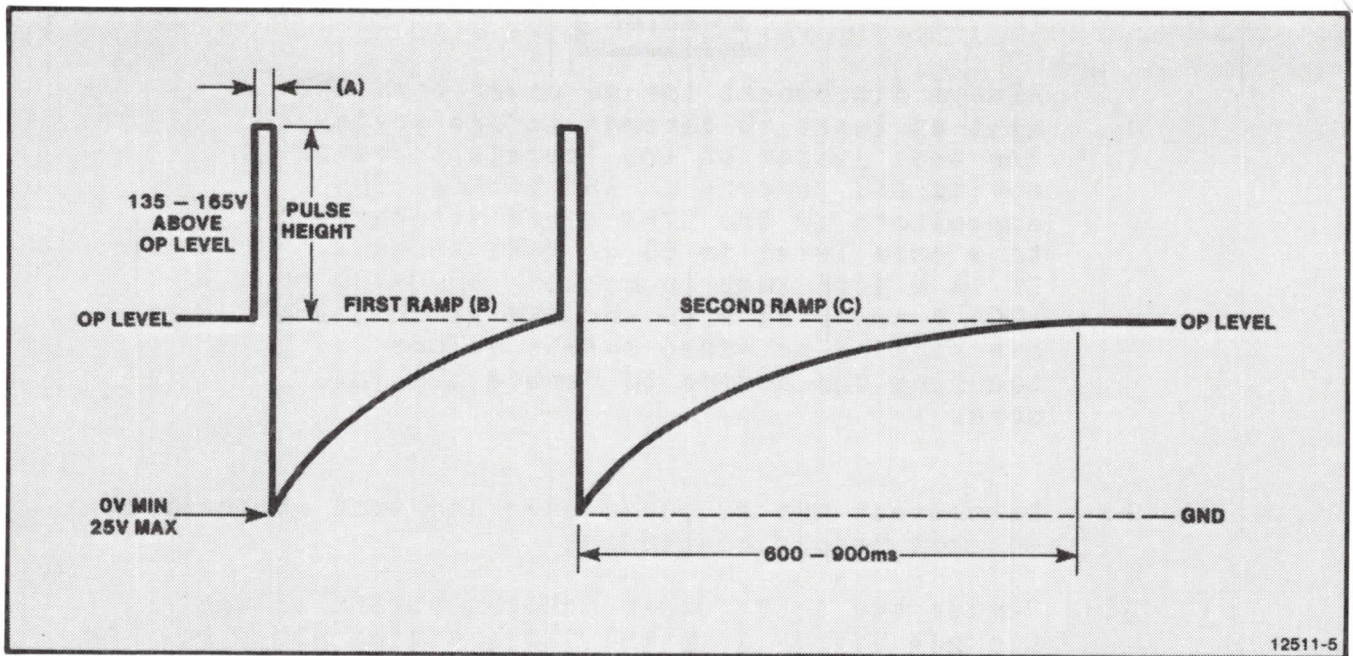
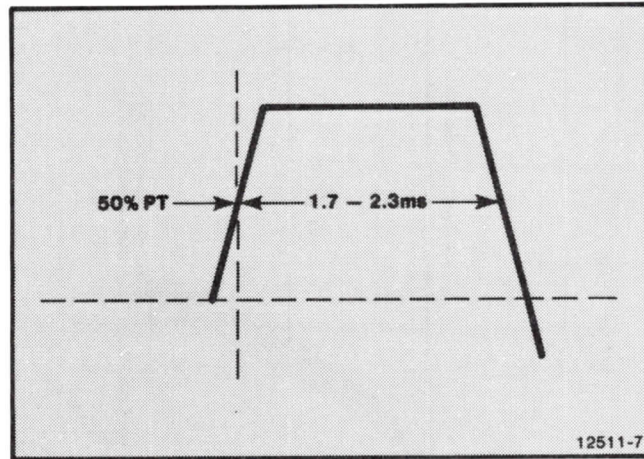

Figure 10-14. Target Erase Waveform.
Figure 10-16. Target Erase Pulse Waveform.
10. Refer to the target erase waveform (Figure 10-14) and do the following:
16. Observe the pulse waveform ([a] of Figure 10-14) shown in Figure 10-16.